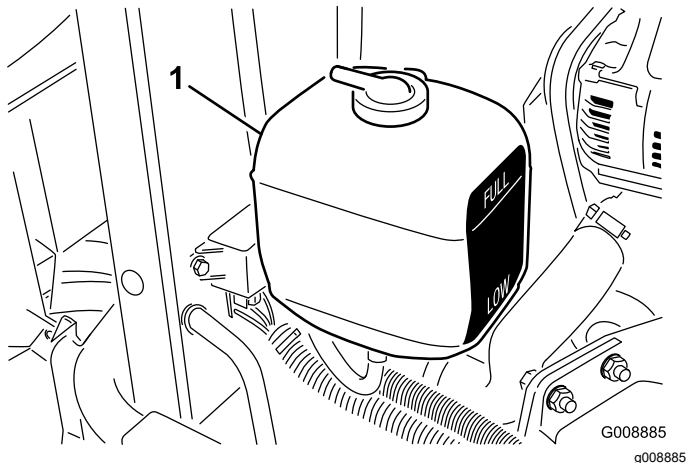

Figure 29
1. Check the coolant level in the expansion tank (Figure 29). With a cold engine, the coolant level should be approximately midway between the marks on the side of the tank.